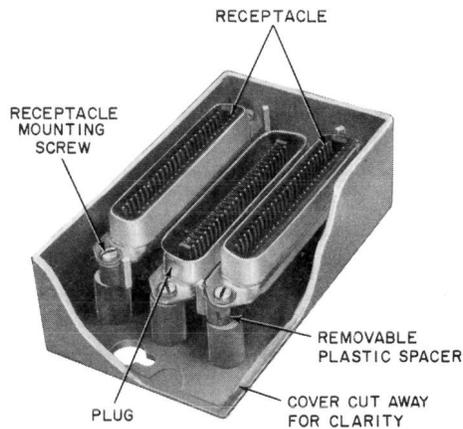

Fig. 18—KS-19252, L1 Adapter Before Conversion (Early Model)
- The KS-19252, L1 is arranged for use with an A25B connector cable and two plug-ended sets (Fig. 18). It can be converted for use with an A25B and B25A connector cable plus a plug-ended set by pulling two inserts and storing. Normally, in early models, the receptacles were positioned high enough to
- (1) Loosen receptacle mounting screws sufficiently to permit slipout of the two C-shaped plastic spacers (Fig. 18 and 19) which support the receptacle in base.
- (2) Remove spacers. Receptacle can then be depressed to its lowest mounting position to receive the B25A connector cable plug.